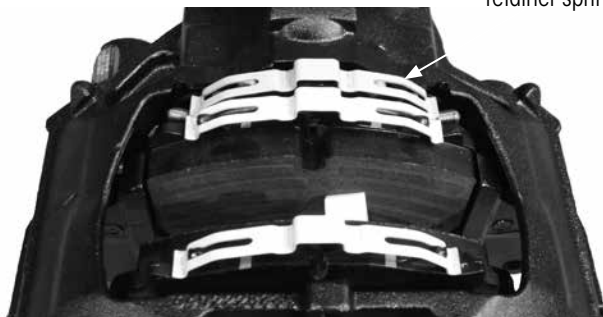

Figure 38: Installing pressure plate retainer spring
9. **Place** a new retainer spring onto the pressure plate (Figure 38).